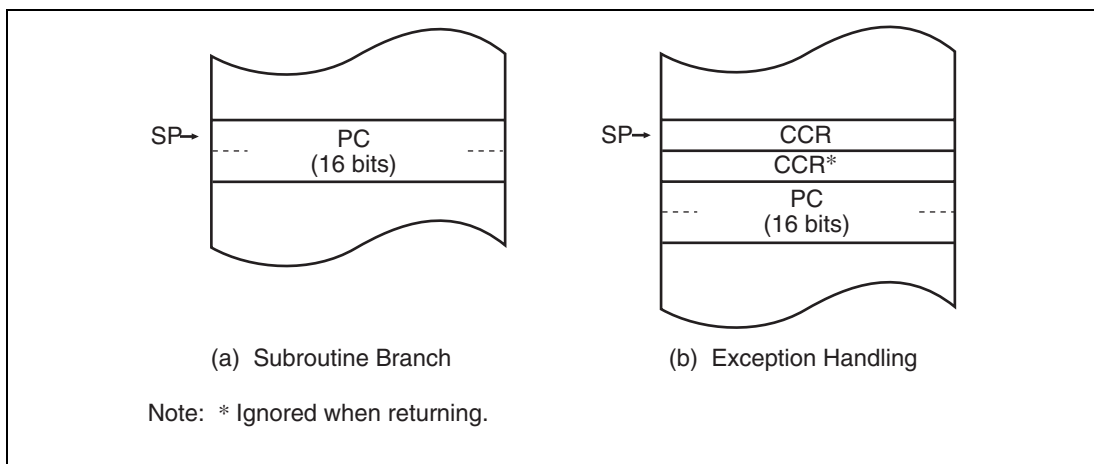

Figure 2.2 Stack Structure in Normal Mode
In normal mode, when the program counter (PC) is pushed onto the stack in a subroutine call in normal mode, and the PC and condition-code register (CCR) are pushed onto the stack in exception handling, they are stored as shown in figure 2.2. The extended control register (EXR) is not pushed onto the stack. For details, see section 4, Exception Handling.